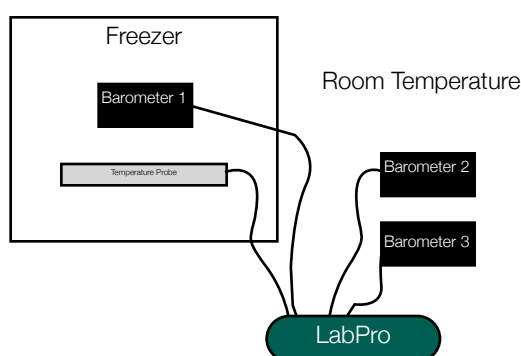

Figure 3
12. After they have recorded data for 5 minutes in the same environment, place Barometer 1 and the temperature probe into the fridge or freezer.²³ Place barometers 2 and 3 outside of the fridge or freezer (Figure 3). Let the instruments record data for the remaining 2700 seconds.